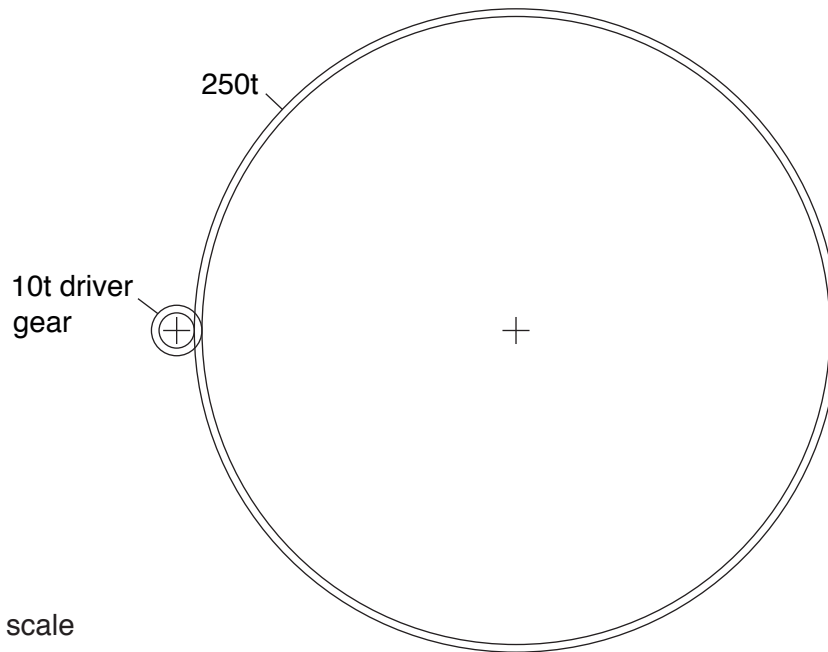
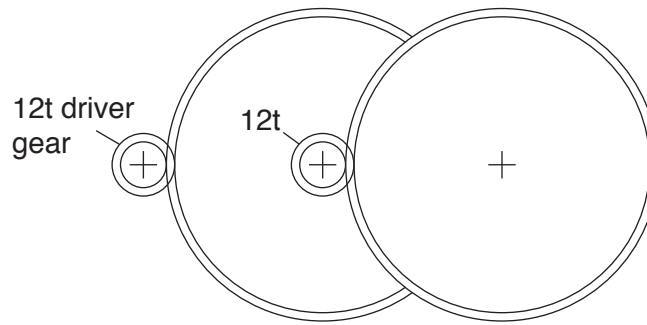

Fig. 8
Fig. 9
(ii) Fig. 8 shows a simple gear arrangement.
- (iv) Fig. 9 shows a compound gear train that will give the same velocity ratio as the simple gear arrangement in Fig. 8.